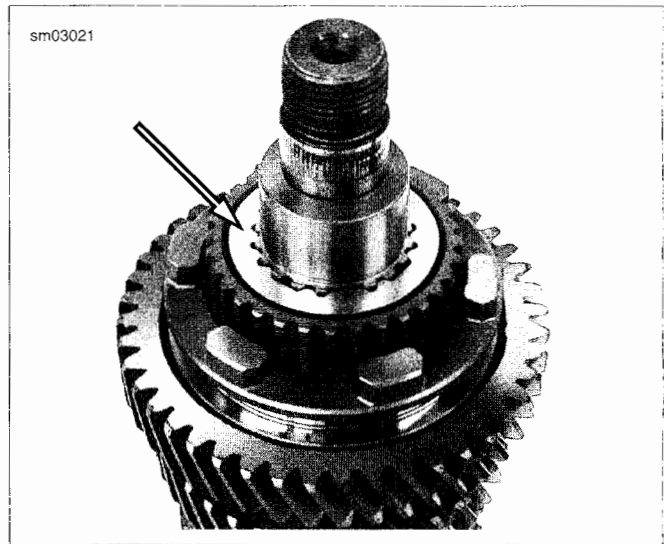

Figure 6-18. Lock Ring
See Figure 6-18. Note the direction that the 2nd gear locking ring is installed.
- See Figure 6-18. Place lock ring over securing segments with the stepped face of the lock ring against the securing segments.